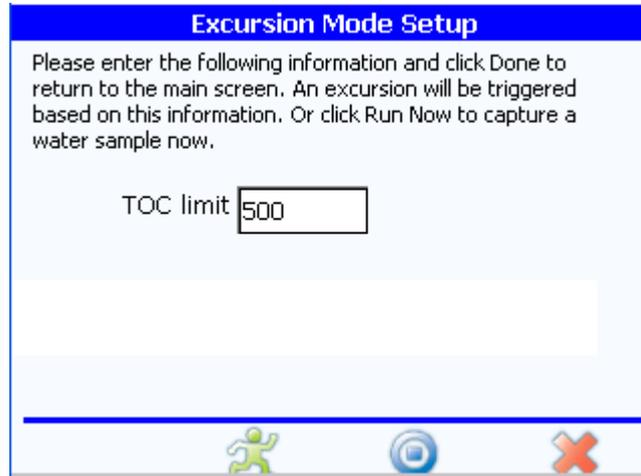

Figure 6-27 Excursion mode setup dialog box
- 3) Touch the forward icon. The excursion mode setup dialog box appears. See Figure 6-27.